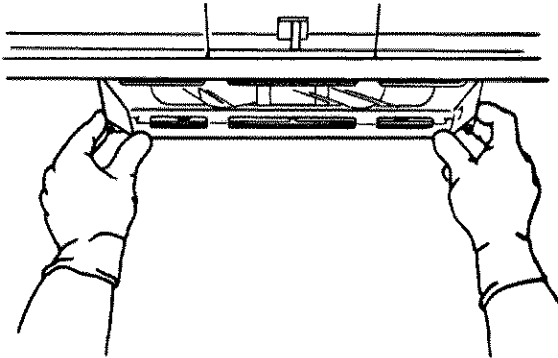

Figure 38
- Remove bulb cover by pressing toward center on each rear corner to release from screws. See Figure 38.